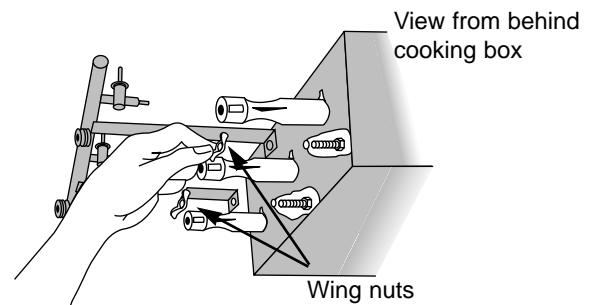

Figure 11
- Remove the manifold bracket and unscrew the two wing nuts that hold the manifold to the cooking box. Pull the manifold and valve assembly out of the burners and carefully set it down. Figure 11.